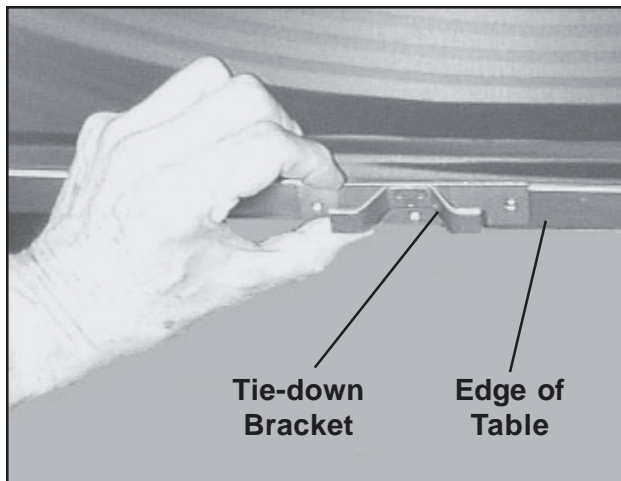
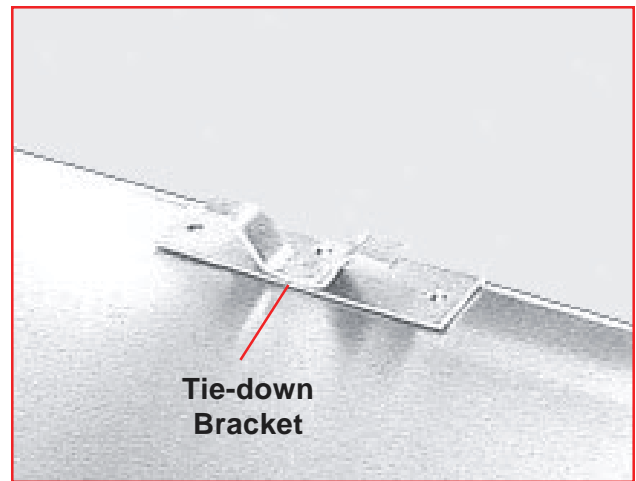

Figure 6. Holding a Tie-down Bracket to Table Edge
Figure 7. Tie-down Bracket on Table Top
2. Hold a single tie-down in place on the edge of the table (Figure 6) or the top of the table (Figure 7), and mark the centers of the three holes on the table. The single, center hole should go toward the bottom, or toward the edge.